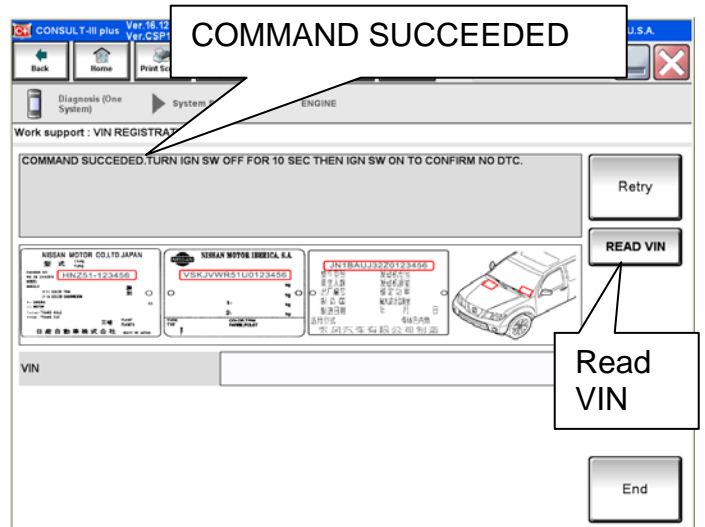

Figure 24a
6. When VIN registration is complete, COMMAND SUCCEEDED will display (see Figure 24a).